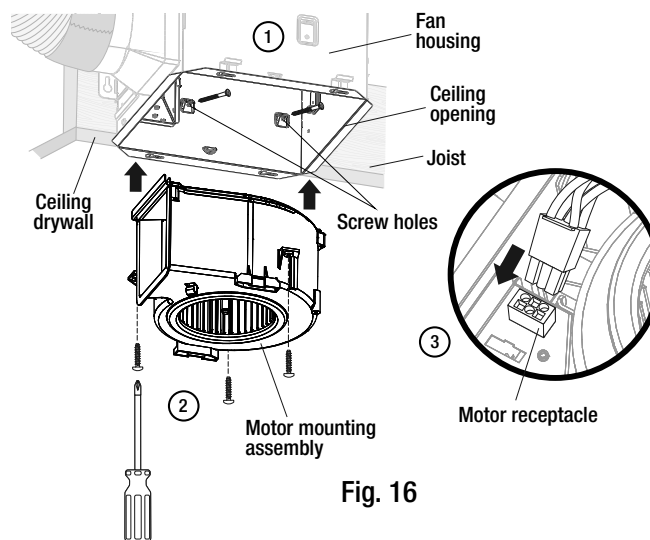

Fig. 16
- Secure the fan housing to the ceiling joist with screws as shown in figure 16.
- Ensure the housing is fastened securely, then reinstall the motor mounting assembly. Plug the motor into the receptacle. See figure 16.